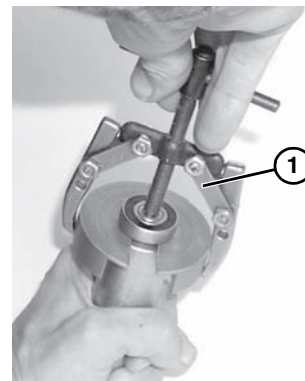

Figure 41
2. Using a puller (**Figure 41, item 1**), remove and discard bearing.